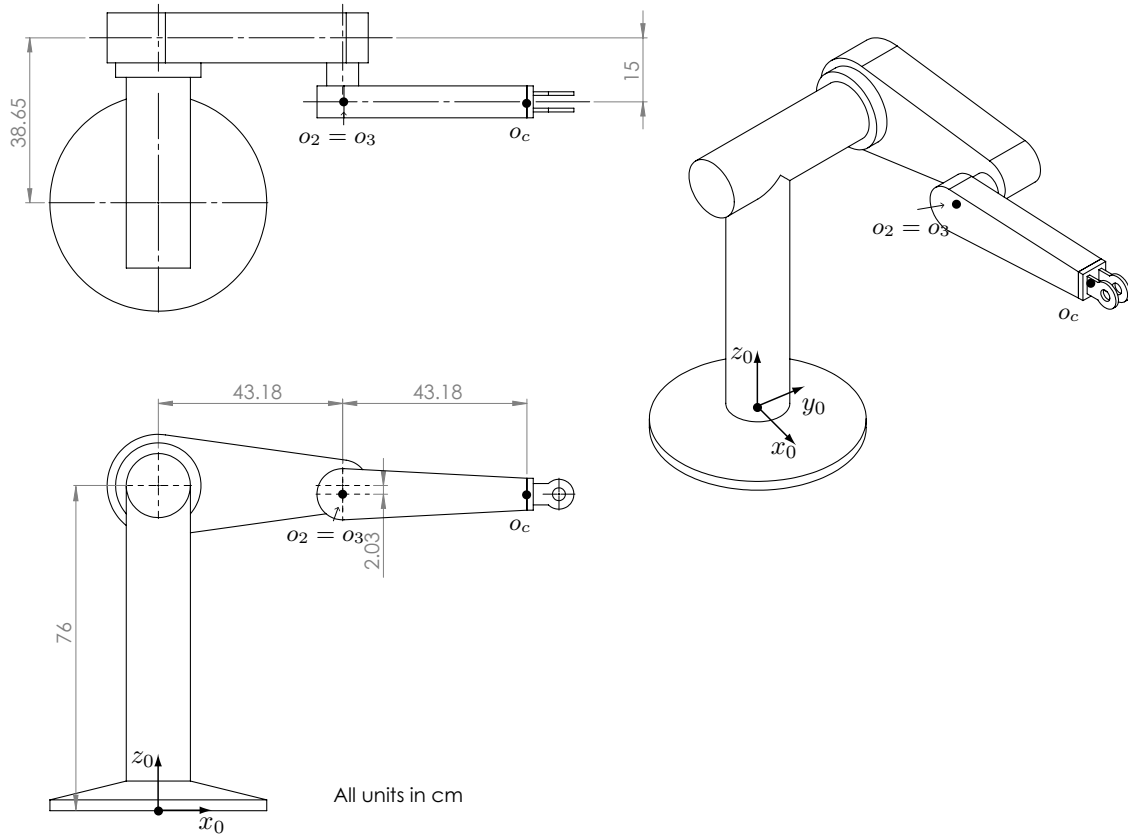

Figure 1: Schematics of the PUMA560 robot
The PUMA (Programmable Universal Machine for Assembly) is a robot developed by Unimation in the late 1970s for industrial automation in General Motors plants. This robot was particularly well-designed, mechanically robust, and very reliable, so much so that it remained in production for twenty years even after Unimation was bought out. In this lab you will familiarize yourself with the kinematics of the PUMA 560, depicted in Figure 1. This is an articulated robot with six joints, the last three of which are a spherical wrist.
2. Based on your frame assignment, and the lengths marked on Figure 1, write down the  $6 \times 4$  DH table of the PUMA 560 robot, assuming that the wrist length is  $d_6 = 20\text{cm}$  and that  $x_4 = -z_3 \times z_4$ .